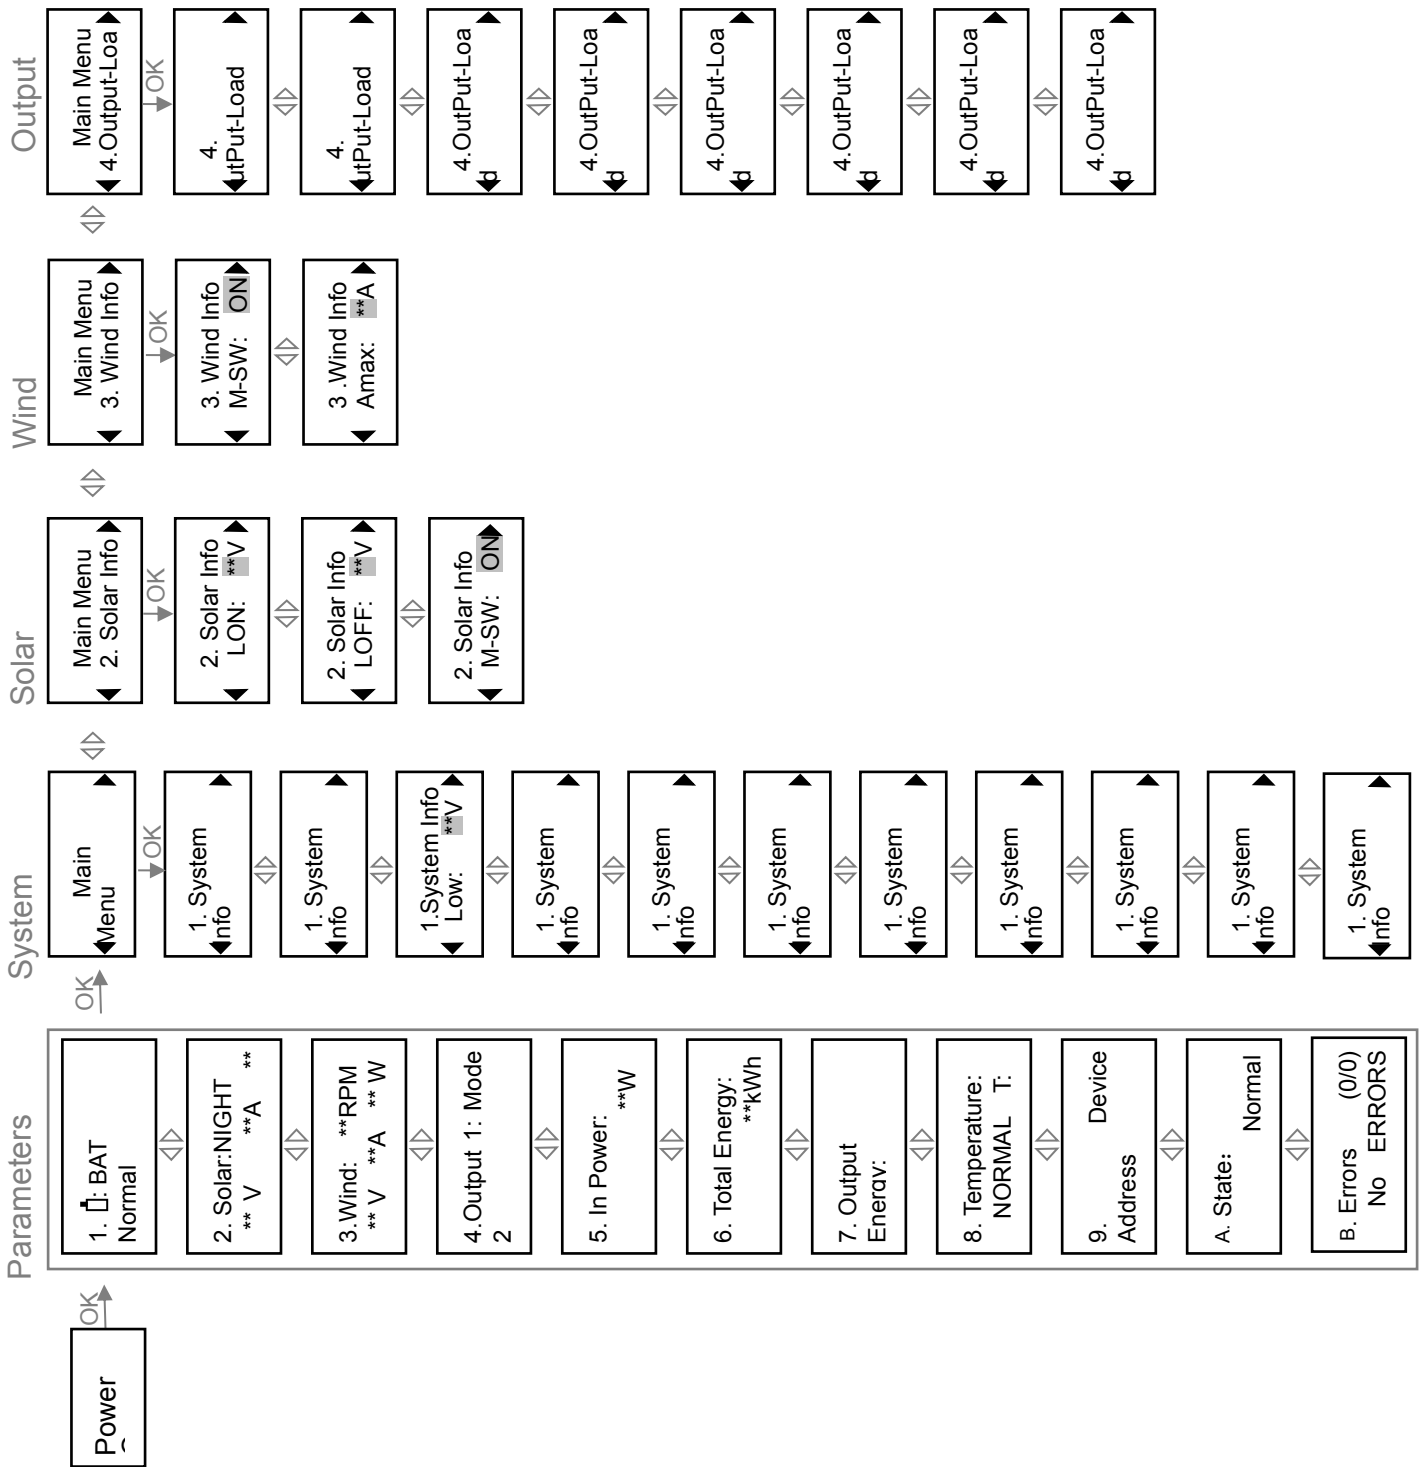

Figure3-1 Overview of LCD
- The parameters in shadow on Figure3-1 could be set manually by users.